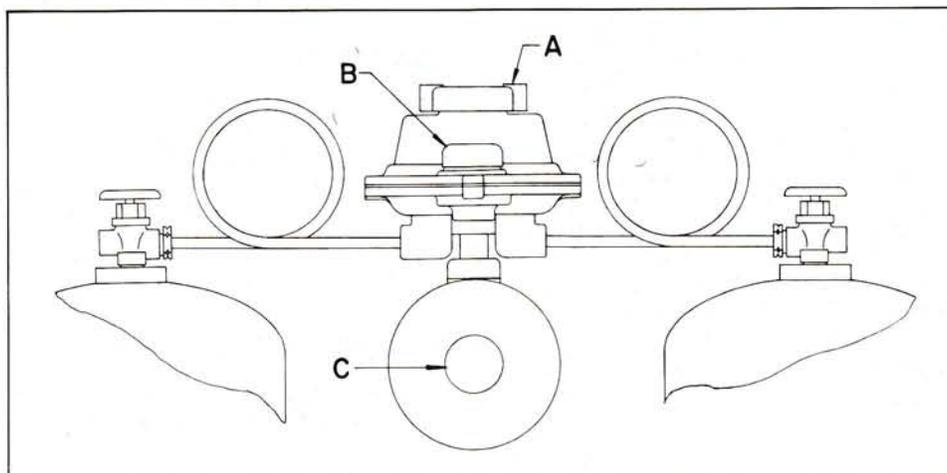

Figure 2—Typical installation
4. Inform the user that the supply cylinder is not completely empty until the red warning flag is fully visible in the indicator window (B), Figure 2.
Place one of the two cylinders in supply by rotating the changeover knob (A), see Figure 2, either way as far as it will go. The arrow denotes the supply service side. Open both cylinder valves slowly.
Type R110 is factory set and is nonadjustable. If it becomes necessary to increase the outlet pressure of the second stage regulator, remove the closing cap (C), see Figure 2, and turn the adjusting screw clockwise. Turn the adjusting screw counterclockwise to decrease the outlet pressure. Always replace the closing cap after adjustment is made.